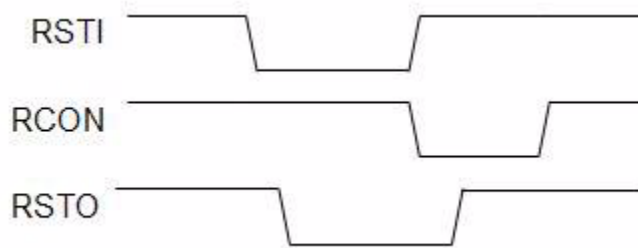

Figure 2. EzPORT hardware initialization
The EzPORT mode can only be entered after a reset and clearing the RCON signal. The signal must then be set to high. Afterwards, the RCON signal behaves as a chip select during SPI communication, see Figure 2. The SPI communication will be active when the RCON signal is clear and idle when it is set.
- EzPORT initialization obey Figure 2.